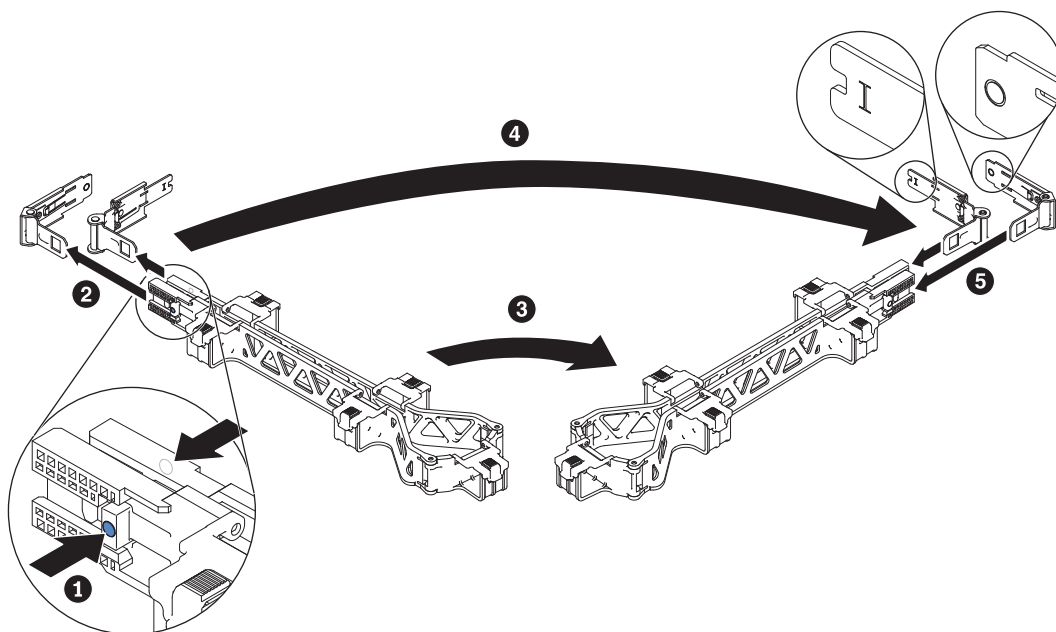

Figure 29. Installing the cable management arm on the opposite side
10. Optional: You can install the cable management arm on the opposite side, as shown in Figure 29 on page 35.